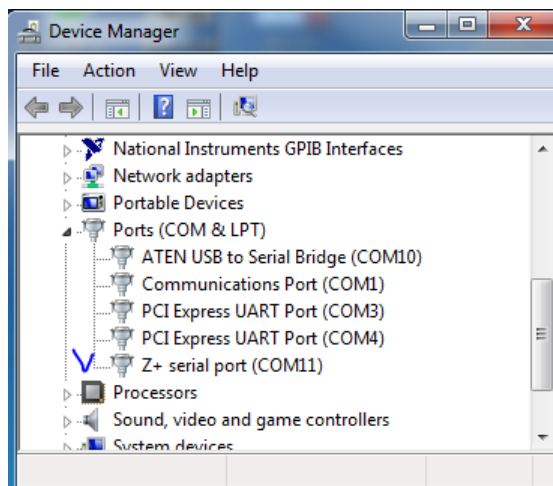

Fig 7
5. USB driver will be installed as an additional serial port (Example: seen as Z+ serial port COM11) in the picture below. Refer to Fig 7